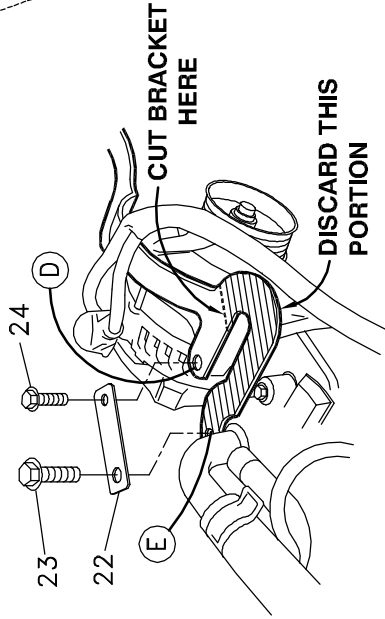

FIG. 2
5. Pull the two wiring harness connectors from the mounting bracket. Remove the nut and bracket from the engine. Cut off the bracket and drill a new hole as shown in Fig. 2. Replace the two connectors back in the bracket. Turn the bracket so it is lying down, pointing to the rear and the connectors are standing up. Attach the bracket and ground strap to the intake manifold at Location I with the M6 x 16 bolt (18) as shown in Fig. 3.